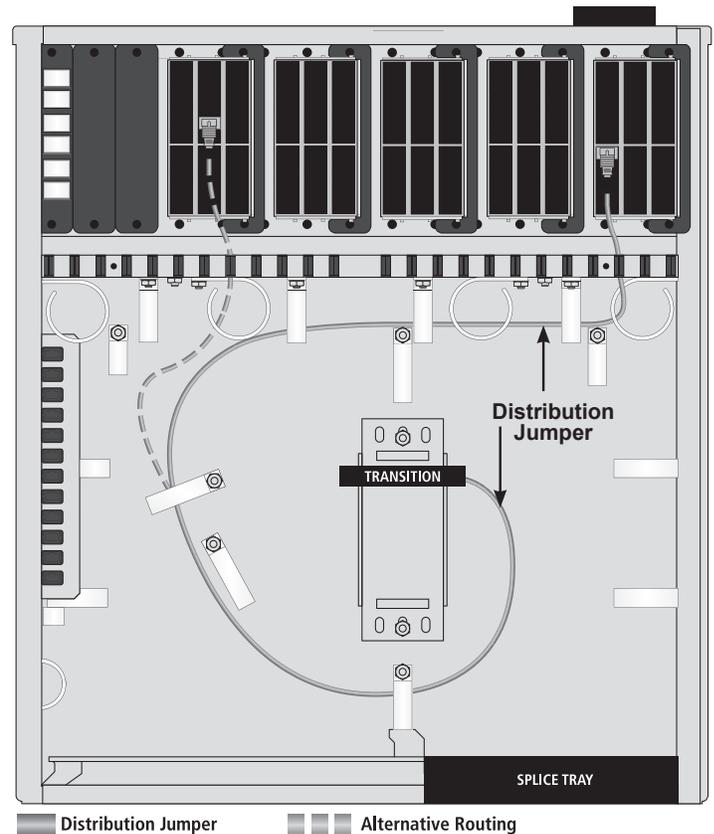

Figure 21
7. Route the remaining distribution fiber slack through the fiber routing section of the IDC. **(Figure 21)**